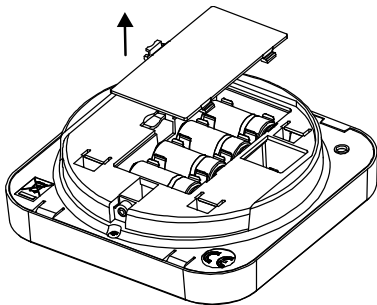

Figure 4
3. Open the battery compartment (see Figure 4).